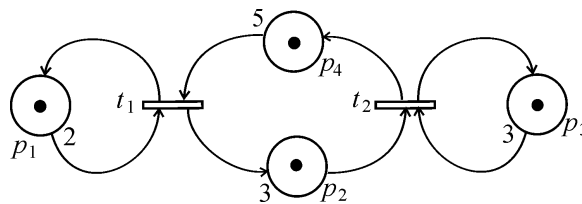

Figure 2.12: Petri net of the bus system
We consider a public transport system of buses with 4 lines and 4 buses. There are only two stations where travelers can change lines. This system can be represented by a Petri net (see Figure 2.12). Each token corresponds to a bus. The places  $p_1, p_2, p_3, p_4$  represent the lines. These places are composed of a number which corresponds to the minimum amount of time that the token must remain in its place (this corresponds to the transit time). The transitions  $t_1, t_2$  ensure synchronization. They are only crossed when each upstream place of the transition has at least one token which has waited sufficiently long. In this case, the upstream places lose a token and the downstream places gain one. This structure ensures that the correspondence will be performed systematically and that the buses will leave in pairs.
- 1) Let us assume that at time  $t = 0$ , the transitions  $t_1$  and  $t_2$  are crossed for the first time and that we are in the configuration of Figure 2.12 (this corresponds to the initialization). Give the crossing times for each of the transitions.